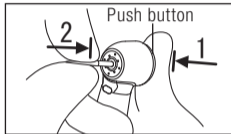

Fig. 6
- 2 Depress the push button to open the chuck (1) (Fig. 6).
- 3 Insert the bur fully into the chuck until it stops (2) then release the push button (Fig. 6).